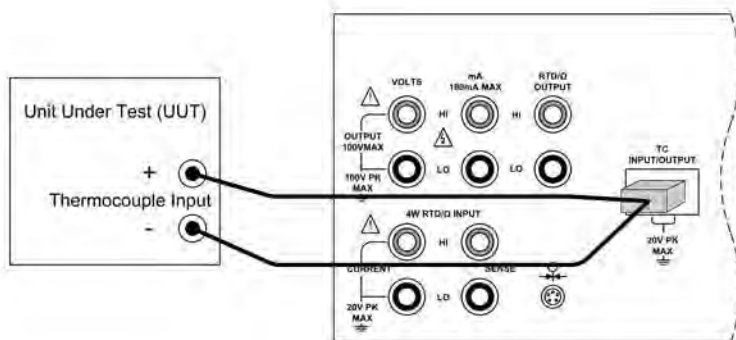

Figure 15 - Thermocouple Output Connection
- e) Connect the unit under test to the thermocouple terminals of the CL3001 using a standard T/C miniplug as shown in figure 15. One pin is wider than the other; do not attempt to force the plug in the wrong polarization. The T/C wire used for the connection must match the thermocouple type selected for proper cold junction compensation. If the CL3001 and the T/C miniplug are at different temperatures, wait at least 3 minutes for the miniplug and terminals to stabilize to the same temperature.